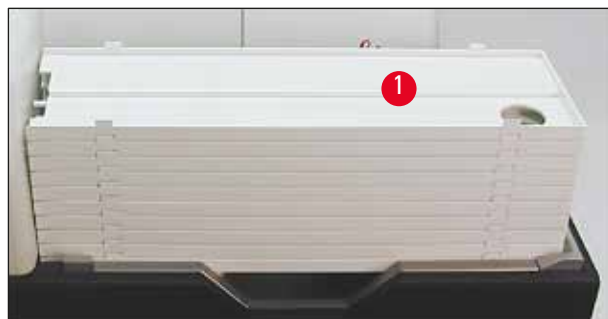

Fig. 42
1. Place a stack of trays (→ "Fig. 42-1") onto the lifting table of the unload station (→ "Fig. 42").